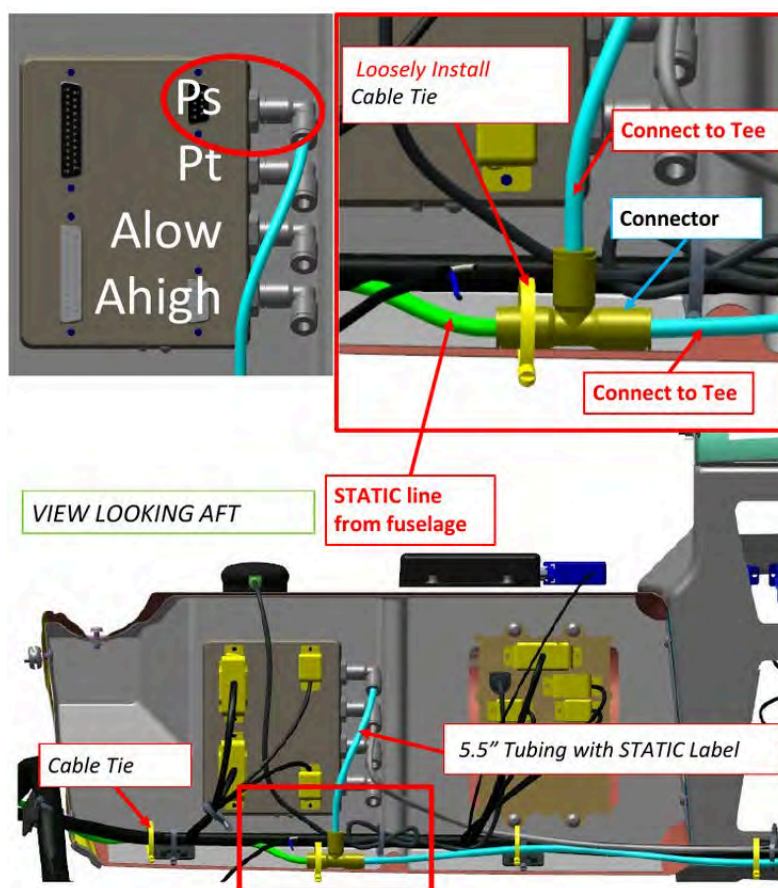

FIGURE 14-59
6. Remove tubing from port on tee connector. (See Figure 14-59.)